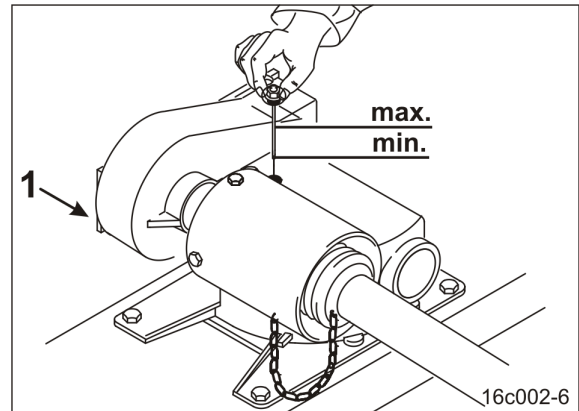

Fig. 138
2. Unscrew the oil drain screw (Fig. 138/1).